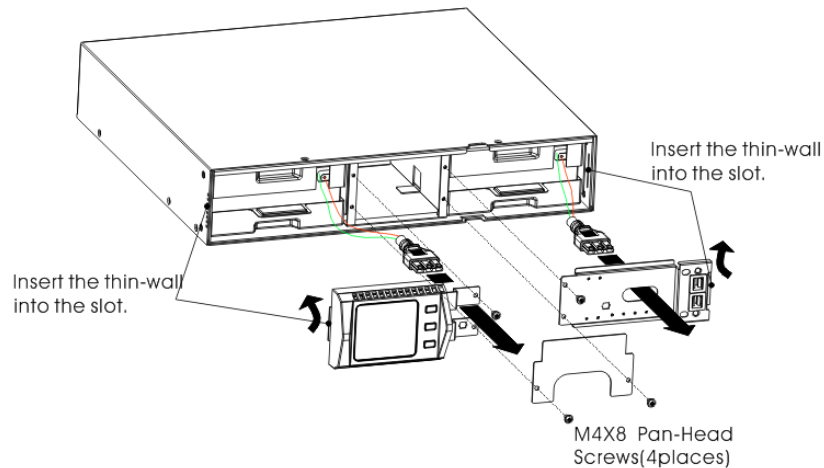

Fig.25 Installation for battery pack
5. Hold the middle of the new battery pack, insert it. Once install the new battery pack, make sure it is completely inserted into the chassis as fig 25 shown.